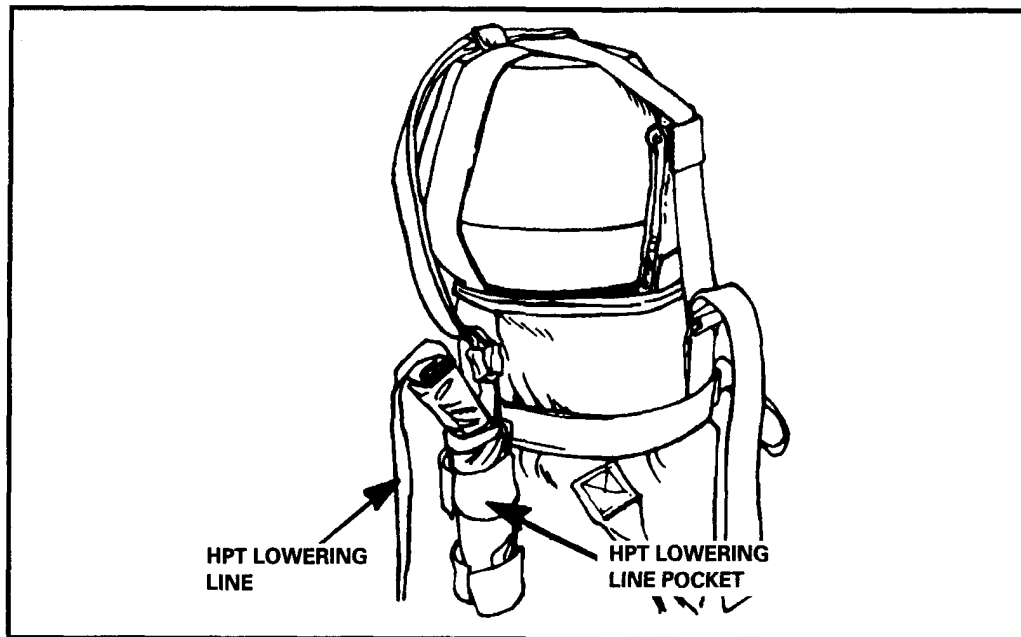
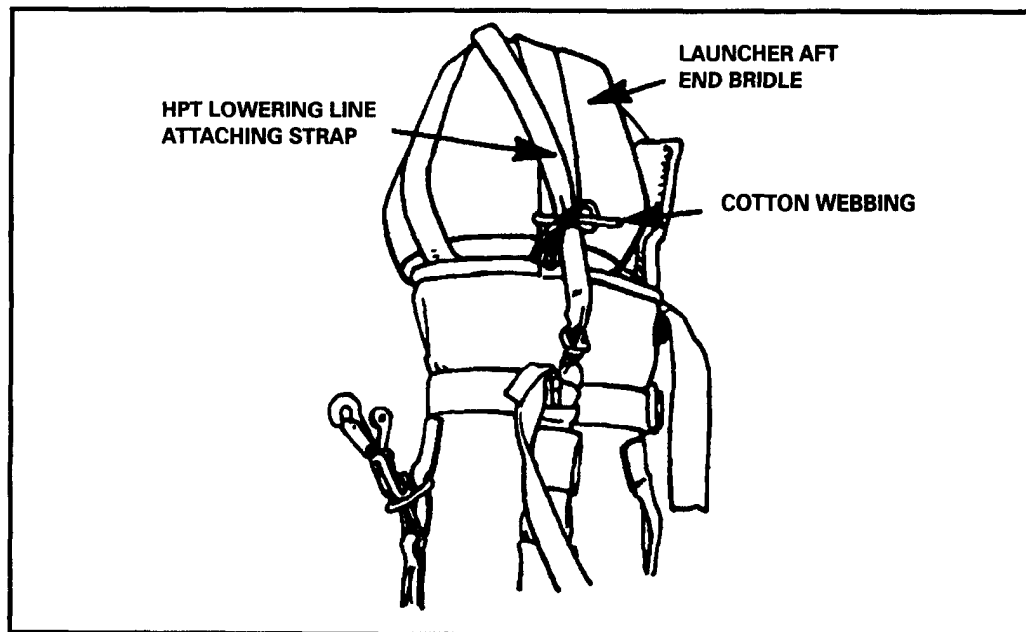

Figure 12-40. Lowering line inserted in pocket.
Figure 12-41. Lowering line attaching strap secured.
(2) S-fold and place the lowering line inside the lowering line stow pocket (Figure 12-40). Tighten the securing tabs (Figure 12-41). The ejector snap of the HPT lowering line protrudes from the lowering line stow pocket.
(3) Install one turn of 1/4-inch, 80-pound test cotton webbing around the lowering line attaching strap and the adjacent launcher aft end bridle strap, and tie securely.